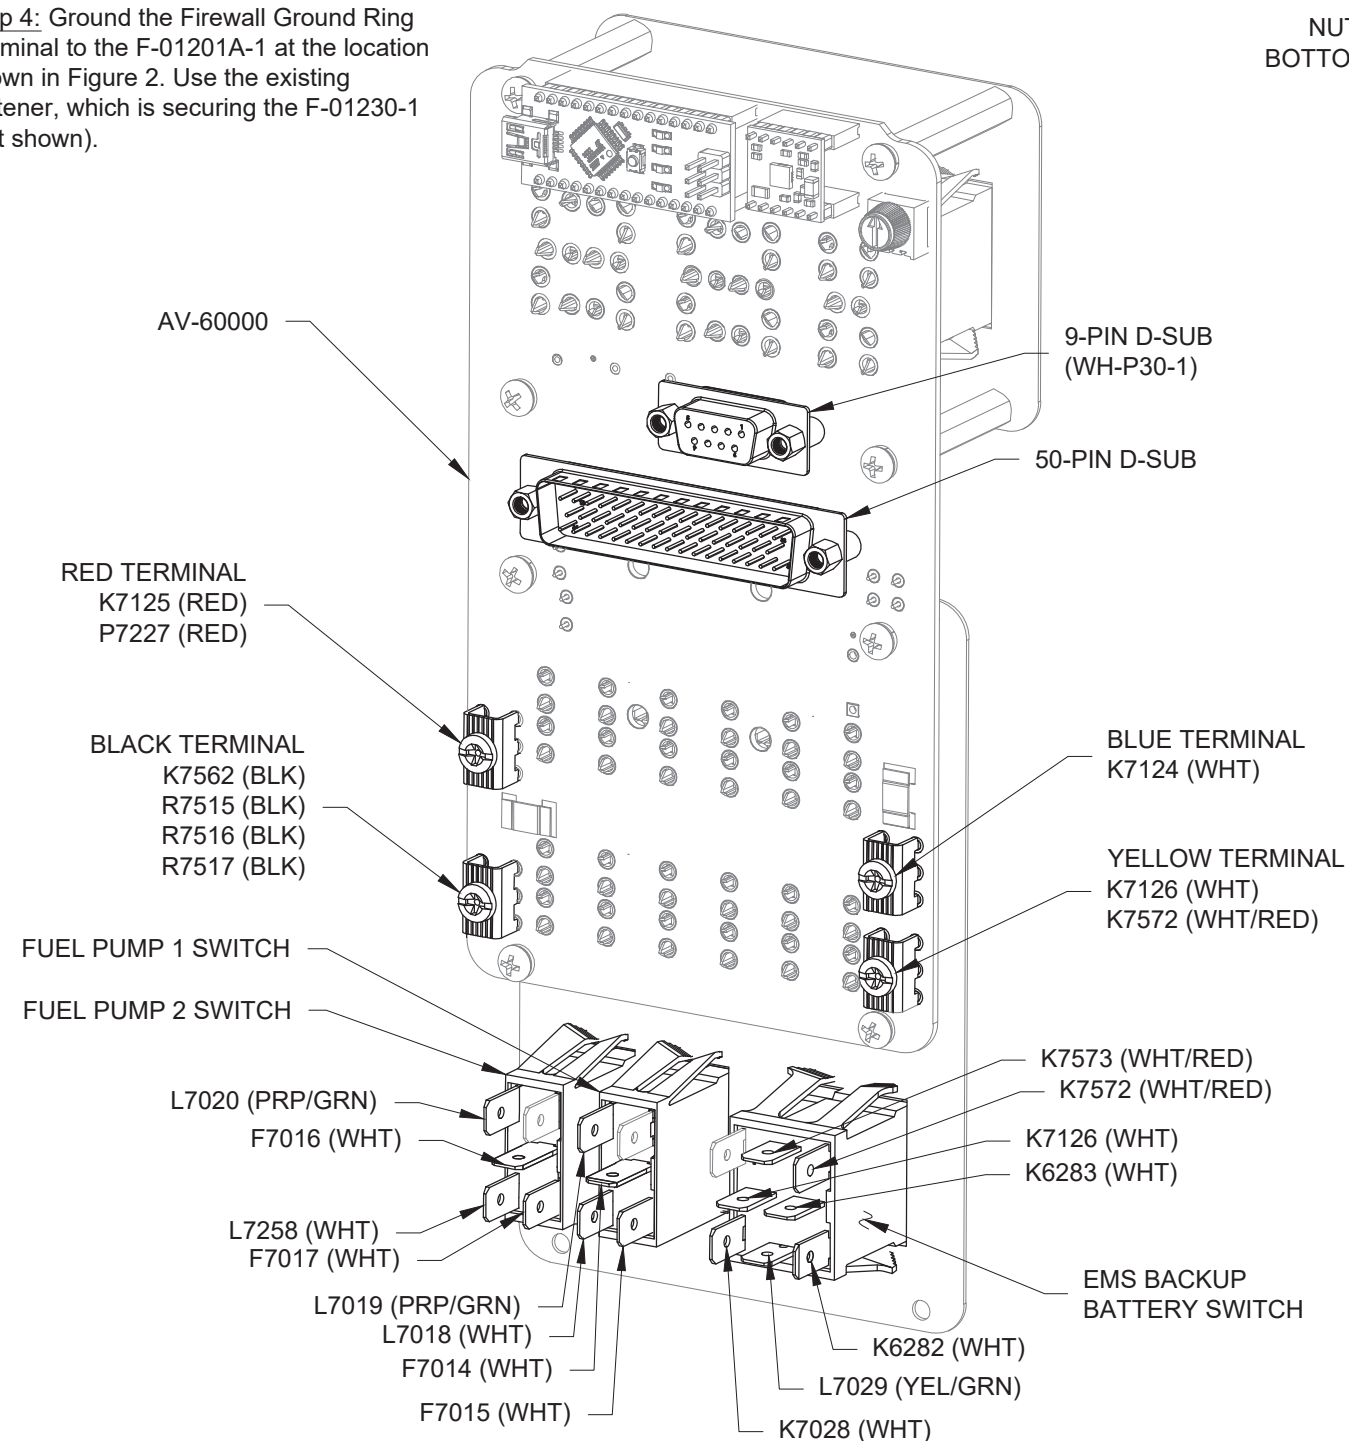

FIGURE 1: POWER MODULE CONNECTIONS
Step 5: Crimp on ES SA-1018 pins onto the WH-P30-1 trim wires, and populate the 9-pin male d-sub as shown in Figure 3. Install the backshell, then connect the 9-pin d-sub to the AV-60000 as shown in Figure 1 and 2.